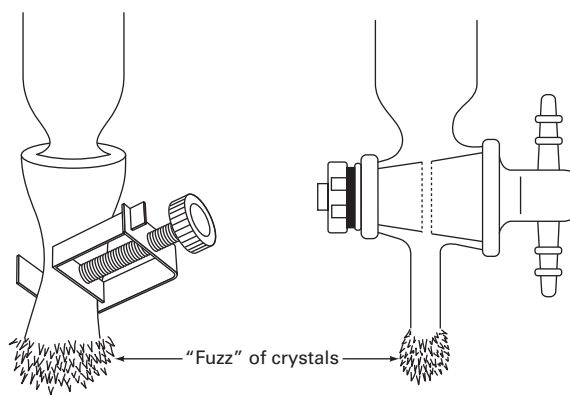

FIGURE 28.2 A growth of crystals occurs as the eluent evaporates.
1. *Occasionally* let one or two drops of eluent fall on a clean glass microscope slide. Evaporate the solvent and see if there is any sign of your crystalline compound! This is an excellent spot test, but don’t be confused by nasty plasticizers from the tubing (Fig. 28.2) that try to put one over on you by pretending to be your product.
Sometimes the solvent evaporates quickly and leaves behind a "fuzz" of crystals around the tip (Fig. 28.2). Just use some fresh solvent to wash them down into the collection flask.